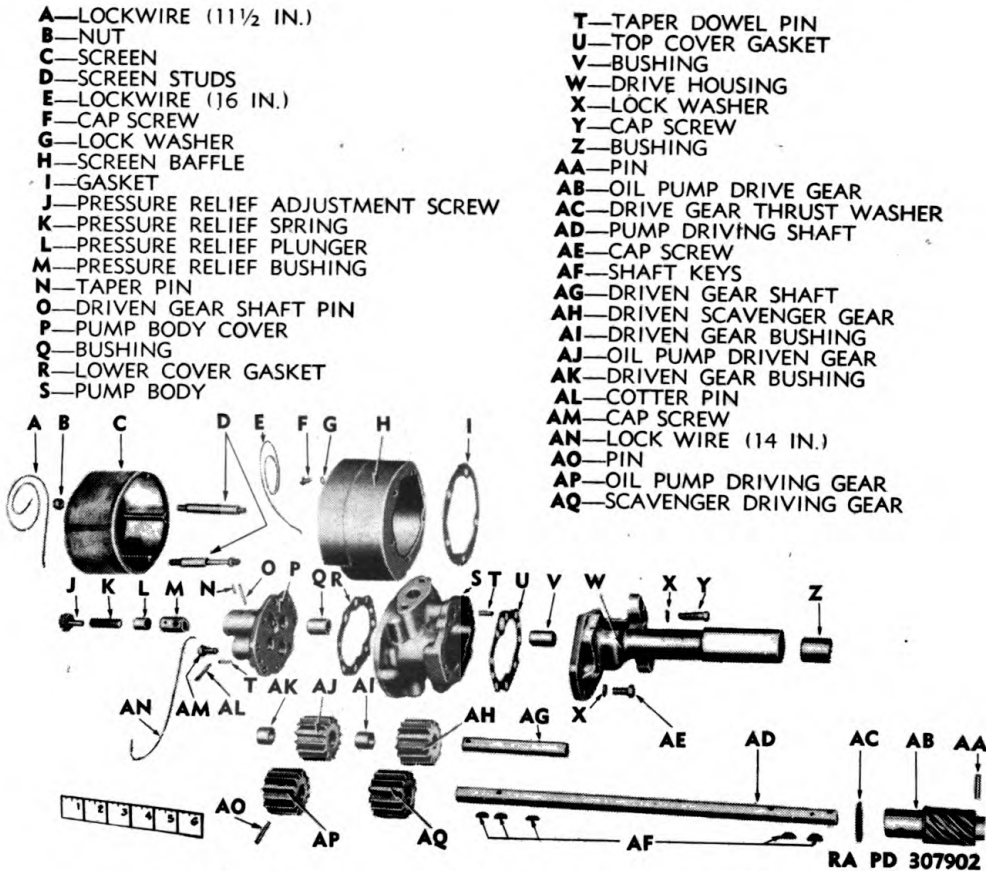

Figure 95 — Oil Pump Assembly Disassembled
(6) **REMOVE AND DISASSEMBLE OIL RELIEF VALVE.** Remove the cotter pin that runs through the slotted head of the relief valve adjusting screw (fig. 95). Remove adjusting screw from valve housing. Lift out valve spring. Shake plunger out of housing. **NOTE:** *It may be necessary to drive the short straight pin, that holds the valve bushing in position, into the open valve body, and shake it out before the plunger may be removed.* This pin has a slight taper and if too much force is required to drive it through the drilled hole in the casting, drill it out.